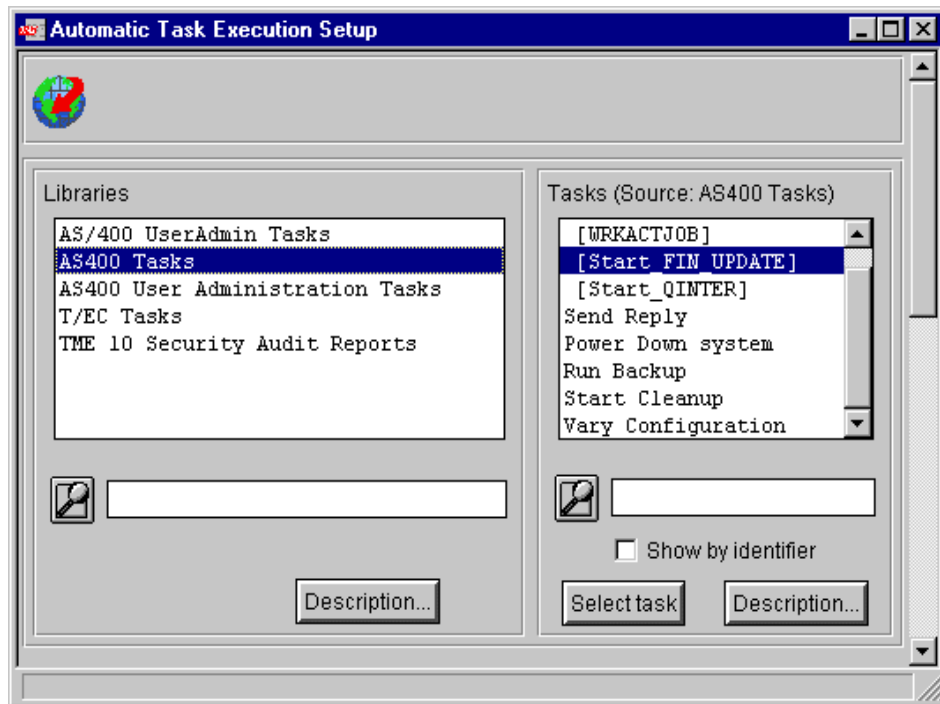

Figure 295. Select an automated task
- Now, we have to associate our automated response with the event. Click on the **Add Task...** button to display the screen shown in Figure 295 on page 462.